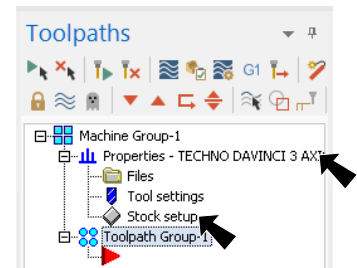

Fig. 28
Fig. 28 on the Machine tab **MACHINE**, click Machine  > Default from the menu.
Step 3. Expand **Properties** (click +) in Toolpaths Manager, **Fig. 28**.